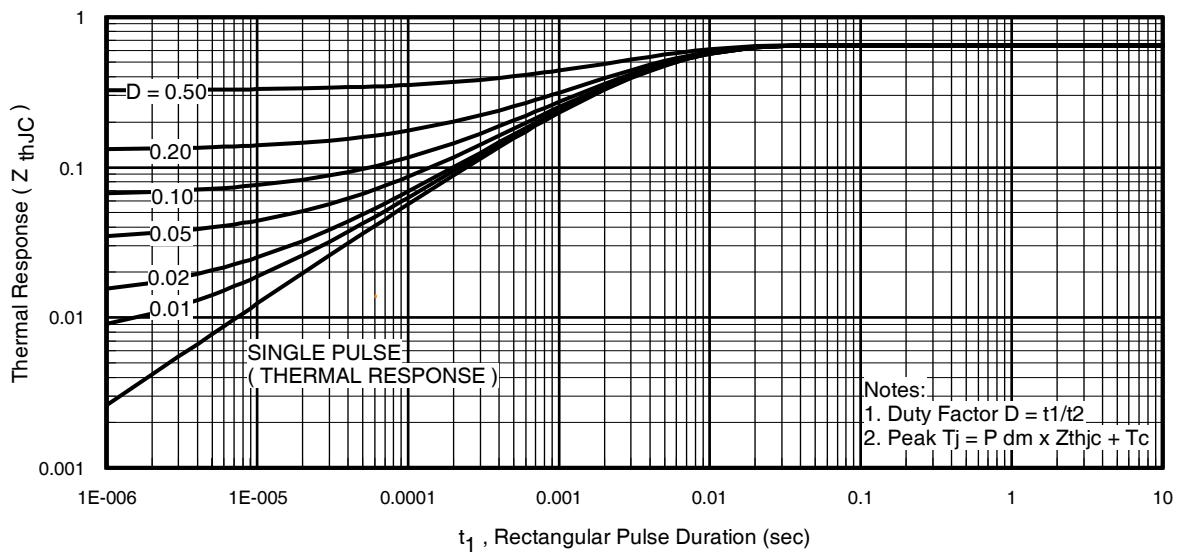
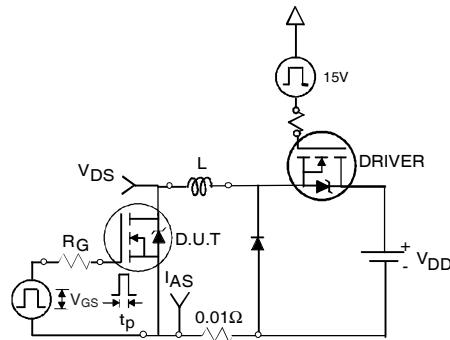

Fig 11. Maximum Effective Transient Thermal Impedance, Junction-to-Case
Fig 12a. Unclamped Inductive Test Circuit
- ① Repetitive rating; pulse width limited by max. junction temperature. (See fig. 11).
- ② Limited by $T_{J\text{max}}$, starting $T_J = 25^\circ\text{C}$, $L = 0.10\text{mH}$ $R_G = 25\Omega$, $I_{AS} = 75\text{A}$, $V_{GS} = 10\text{V}$. Part not recommended for use above this value.
- ③ Pulse width $\leq 1.0\text{ms}$; duty cycle $\leq 2\%$.
- ④ $C_{\text{oss eff.}}$ is a fixed capacitance that gives the same charging time as C_{oss} while V_{DS} is rising from 0 to 80% V_{DSS} .
- ⑤ Limited by $T_{J\text{max}}$, see Fig.12a, 12b, 15, 16 for typical repetitive avalanche performance.
- ⑥ This value determined from sample failure population. 100% tested to this value in production.
- ⑦ This is applied to D²Pak, when mounted on 1" square PCB (FR-4 or G-10 Material). For recommended footprint and soldering techniques refer to application note #AN-994.
3. Equation below based on circuit and waveforms shown in Figures 12a, 12b.
- $Z_{thJC}(D, t_{av})$ = Transient thermal resistance, see figure 11